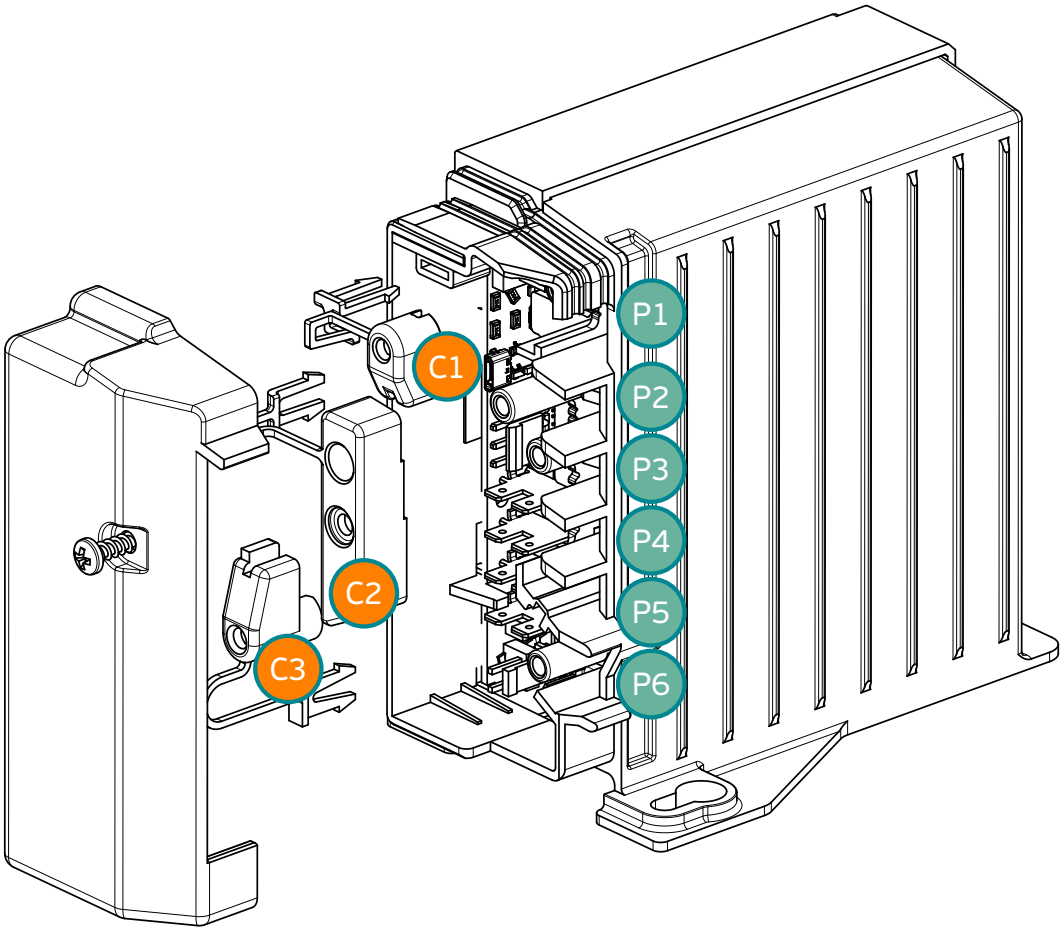

Figure 3.2: Cable paths and cord reliefs - Stand Alone version
The CF03B inverter is supplied only with compressor motor cable, which has your own cord relief. The compressor motor cable is already assembled in the inverter. The input power cord, grounding and communication cables are not provided by Embraco. As shown in Figure 3.2, the CF03B - version Stand Alone has 5 cable paths and 2 cord anchorages dedicated to retain the system cables. Inverter cables must be arranged according to the following instructions.
2. Make the electrical connections and route the cables through the cable path (see Figure 3.2).
3. Route all the cables through the output (see Figure 3.2).
- The screws shown in Figure 3.2 must be fixed with torque of 1.0 Nm (± 0.2).